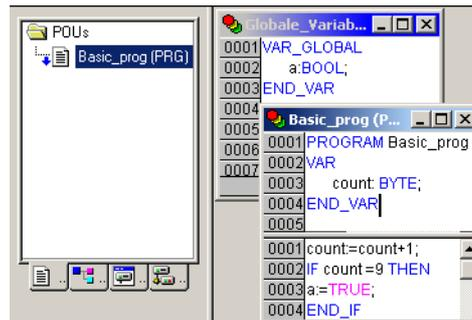

Figure 31: Creating a program element for a cyclic task
- ▶ You can now enter a program. In the program example (Figure 31) the variable "count" is incremented.